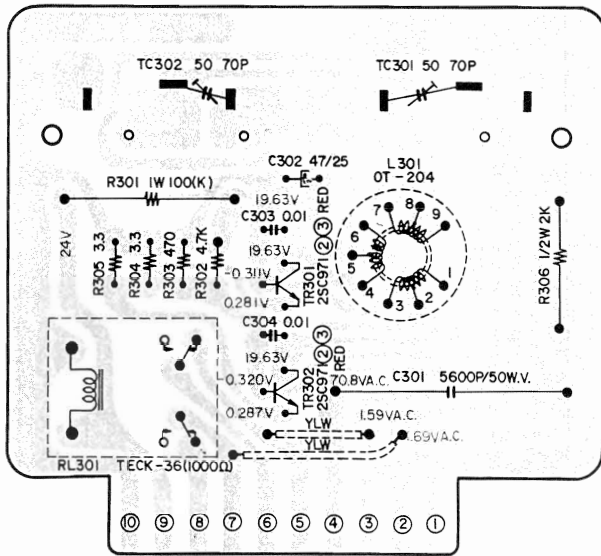

Fig. 23 OSCILLATOR P.C. BOARD KD-A5004 (Reverse Side)
3. FREQUENCY RESPONSE ADJUSTMENT (See Figs. 23 & 24)